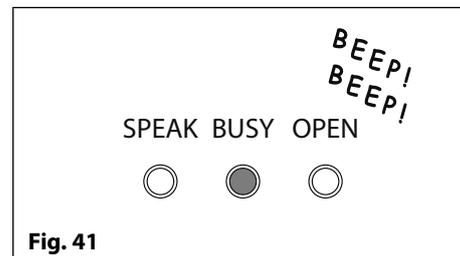

Fig. 41
4. Two short beeps will be heard from the GSM module and the busy LED will switch ON, as shown in **Fig.41**;